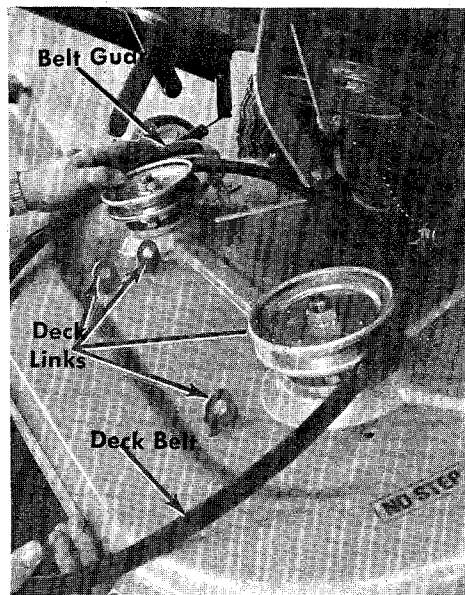

FIGURE 31. DECK LINKS
Step 6. Remove the front four deck links from the cutting deck. See figure 31.
Step 7. Remove the belt guards from both deck pulleys. See figure 31.
Step 7. Tip the deck down as shown in figure 31.